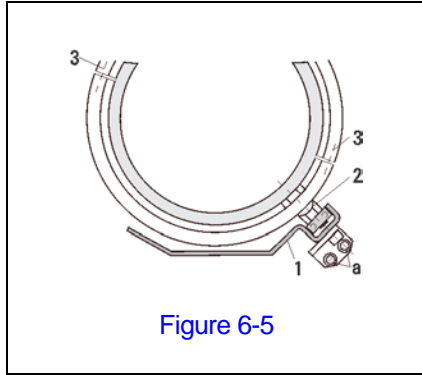
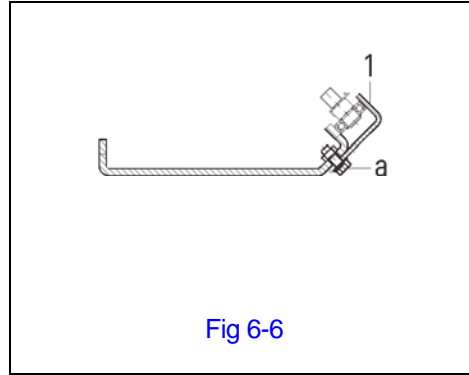

Figure 6-5
Fig 6-6
- Unscrew protective plate (1) under the rope drum at points (a). The rope guide can then be rotated freely. For RHN02-RHN10 models see Figure 6-5 ; for RHN15 & RHN20 models see Fig 6-6.
- **⚠ WARNING** Danger of bodily injury or material damage - Do not unscrew stop with bearing (2)! The stop with bearing (2) is locked with a conical spring washer. This must be refitted correctly. See Figure 6-5.